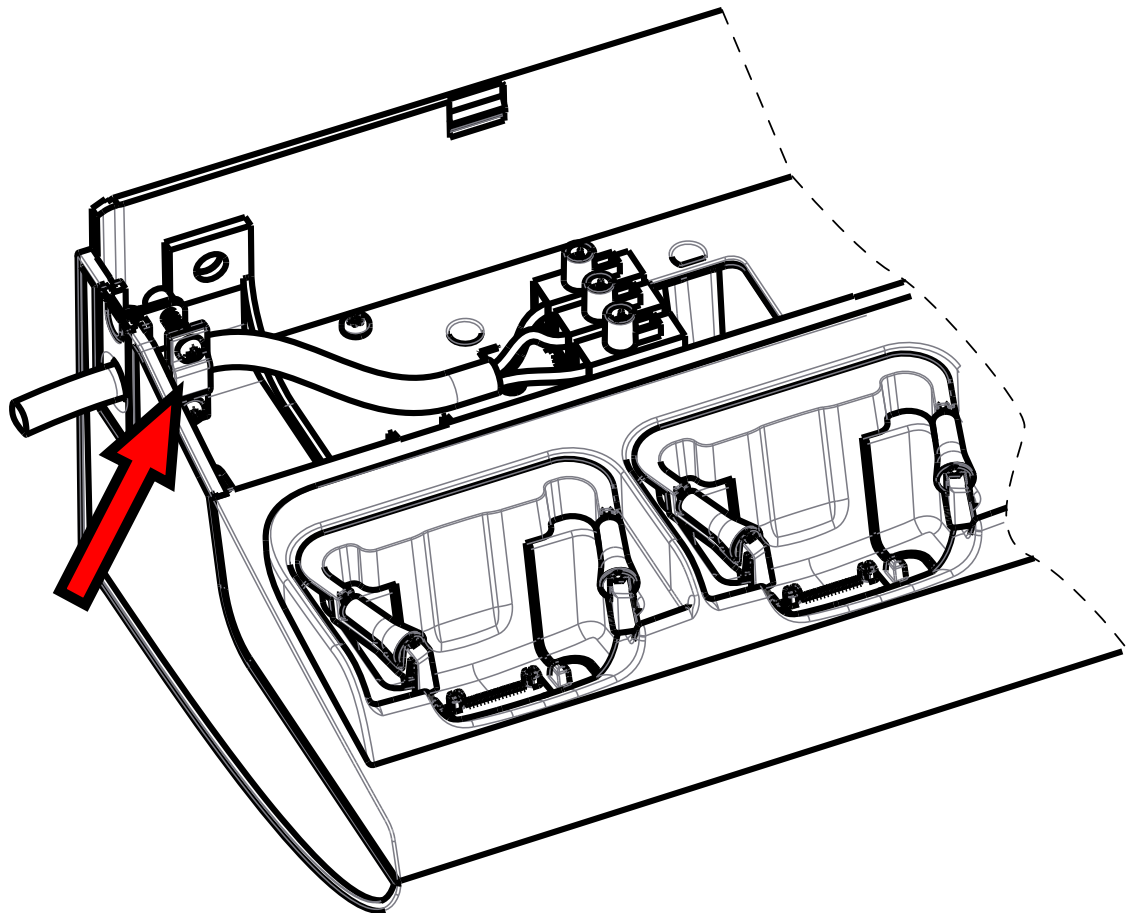

Figure 7: Securing the mains power supply cable
- 6) Run the power supply cord from the additional Handset Charging Rack through the cable support holder of the previous Handset Charging Rack, see Figure 7: Securing the mains power supply cable on page 13.
- 9) Secure the mains power supply cable with two screws (2), which are provided in the parts bag, see Figure 7: Securing the mains power supply cable on page 13.